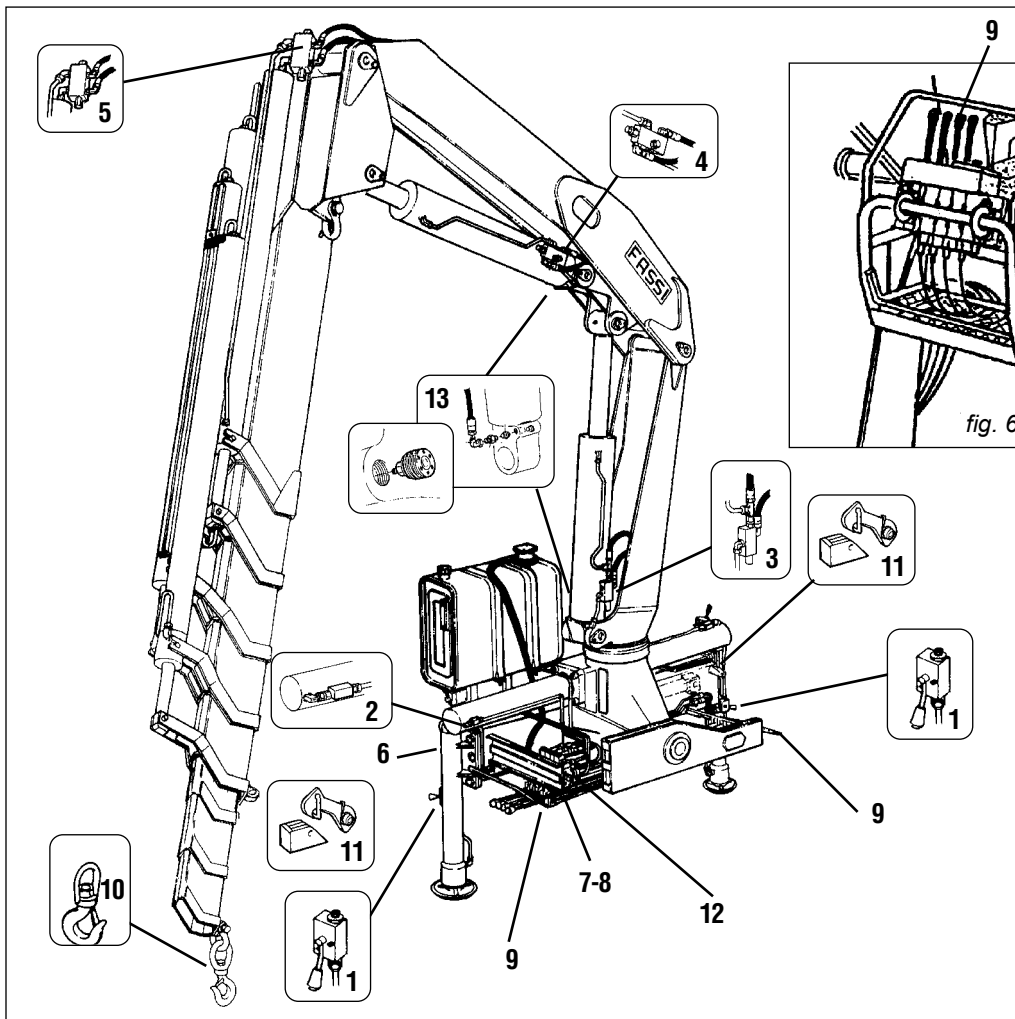

fig. 6
- **Top seat controls (fig. 6a) for crane by hand-cables (optional) (fig. 6)**